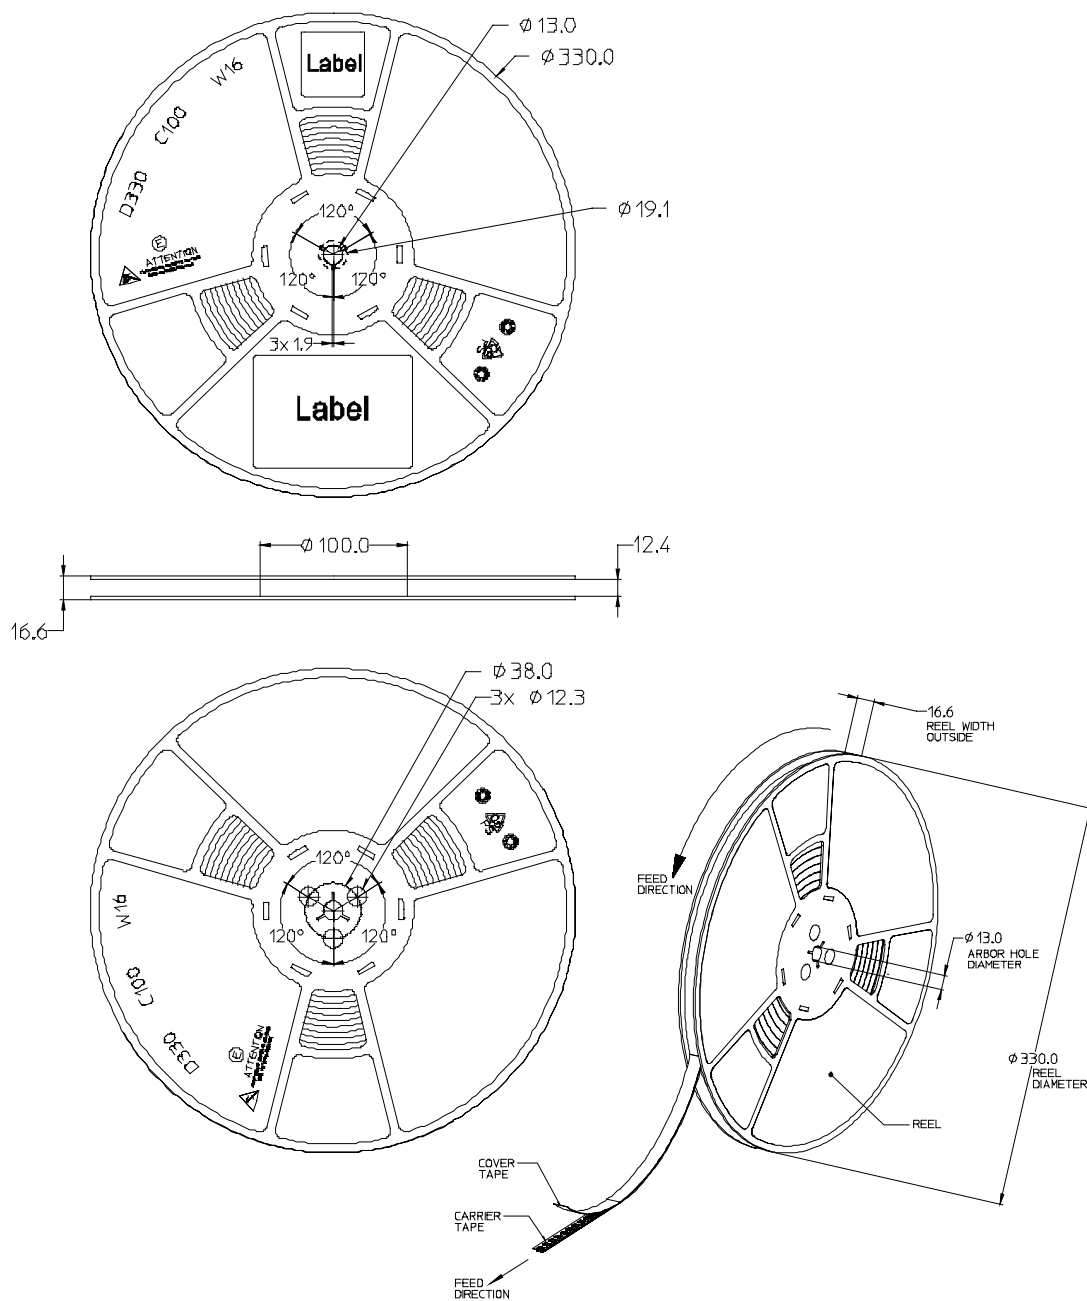

Figure 11. Reel dimensions for LUXEON Rebel Color Line.
Notes for Figure 11:
- Notes for Figure 11: